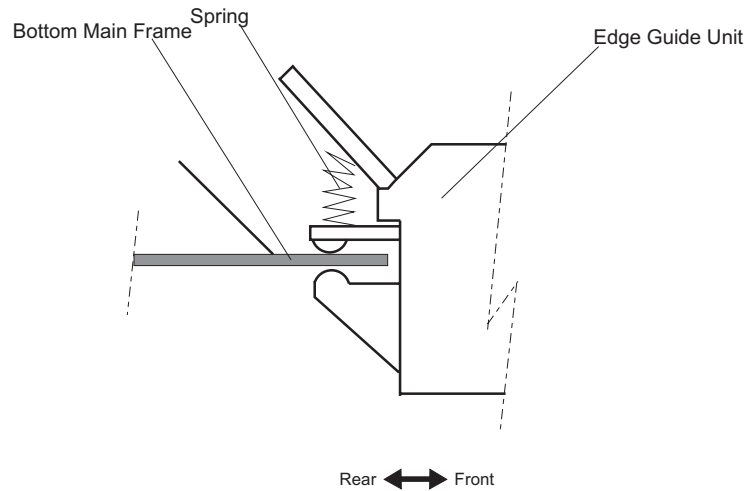

Figure 3-22.
- ❑ When installing the edge guide unit to the printer mechanism unit, engage the edge guide unit with the main bottom frame, as shown in Figure 3-22.